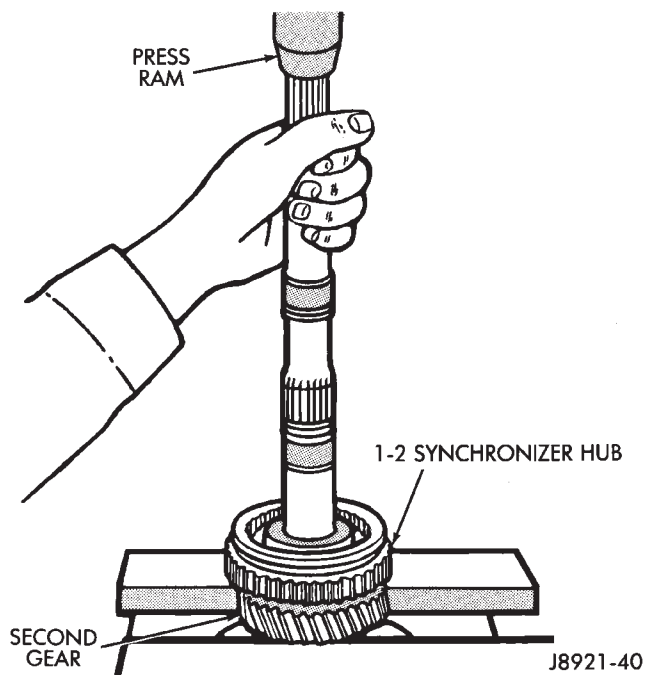

Fig. 115 Remove Second Gear And 1-2 Synchronizer/Reverse Gear
(5) Remove first gear thrust washer locating pin from output shaft.
(6) Remove first gear needle roller bearing from output shaft.
(7) Remove first gear spacer from output shaft.
(8) Remove first gear synchronizer ring.
(9) Remove select fit snap-ring holding the 1-2 synchronizer/reverse gear onto the output shaft.
(10) Using Bearing Splitter P-334 or suitable press plates positioned under second gear, press 1-2 synchronizer/reverse gear and second gear from output shaft (Fig. 115).